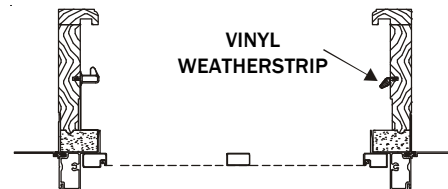

Fig. 7
6. Install the new foam weatherstrip into the side jamb that the exterior sash will be seated against, Fig. 7. This weatherstrip will replace one of the vinyl parting stops that you removed earlier.